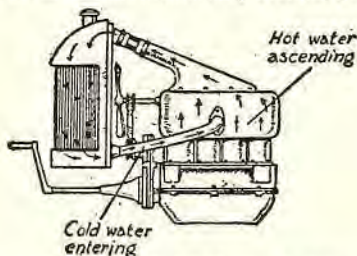

Fig. 1. Thermo-syphon principle of water circulation. See also page 155 for a typical example of a "thermo-syphon" system.
3. A new positive acting accelerating device which charges immediately the throttle is moved, and in the "D" down-draft type carburetor the action of a vacuum piston 14, Fig. 1, connected by a linkage to the throttle lever 4. The volume and force of the accelerating charge is automatically providing the proper charge for the engine.
The economizer is operated as follows: At closed or nearly closed throttle valve, therefore the vacuum piston 14, Fig. 1, from the economizer valve 13, Fig. 1, thus closing the economizer valve.
Figs. 1 and 2. Sectional view of the type "D" down-draft carburetor.
Fig. 2. A thermo-syphon system in which independent pipes are taken from each pair of cylinders, the outlet pipes joining at the upper or tank part of the radiator. Cylinders in this instance are cast in pairs (obsolete). Where cylinders are cast in-block, one water inlet and one water outlet pipe will suffice, as in Fig. 1. See also, page 155.